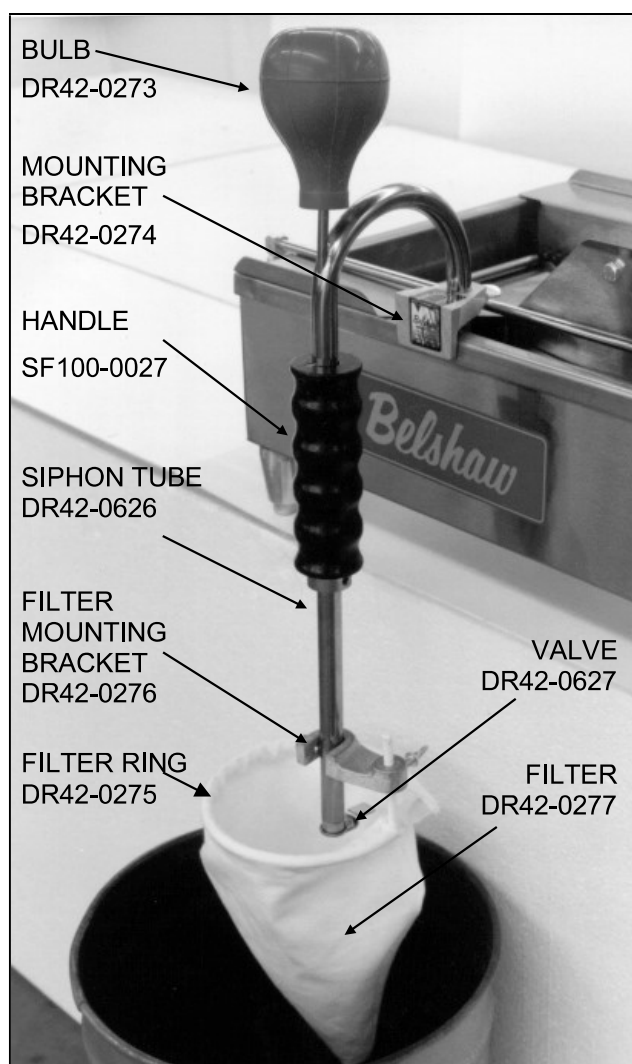

Figure 4-7. Filter Flo Siphon.
5. Attach the filter assembly to the lower part of the siphon tube, as shown in Figure 4-7. To do this: